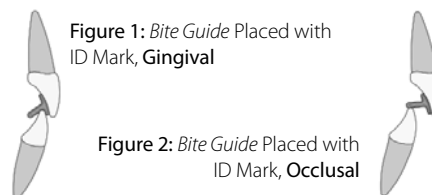

Figure 2: *Bite Guide* Placed with ID Mark, Occlusal
2. **ID Mark Occlusal:** Deep bite correction with 3-4 millimeters of space. (Figure 2)